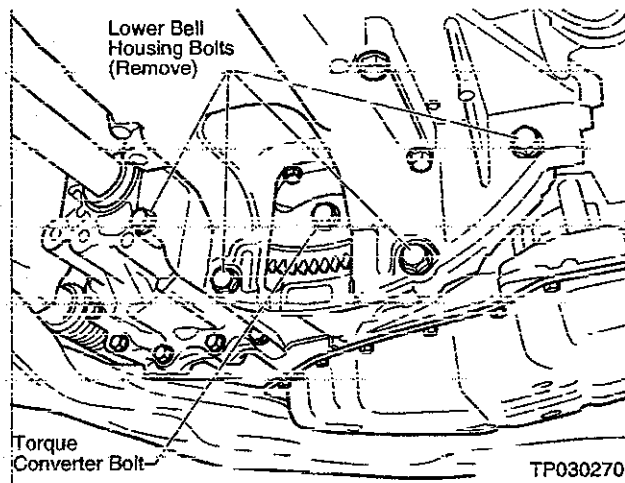

Figure H8
- Remove the Torque Converter and Lower Bell Housing Bolts before removing the engine. It's easier to do this before the engine is out of the vehicle. See Figure H8.